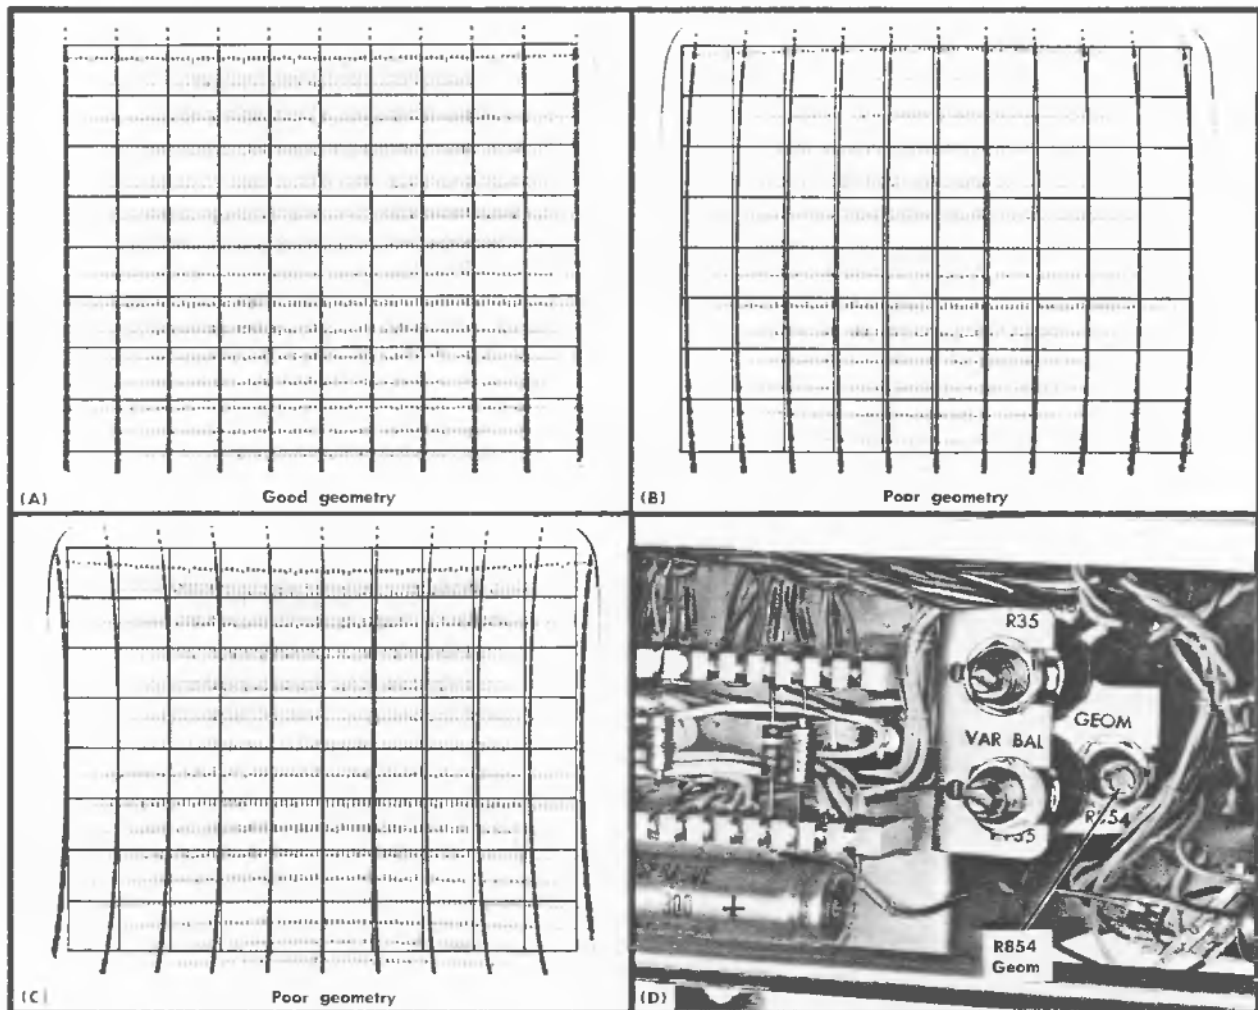

Fig. 6-12. (A) Typical CRT display of good geometry; (B) and (C) poor geometry; (D) location of Geom adjustment (left side).
- b. CHECK—CRT display for minimum bowing of the markers at the left and right edges of the graticule. Fig. 6-12 shows a typical display of good geometry as well as examples of poor geometry.